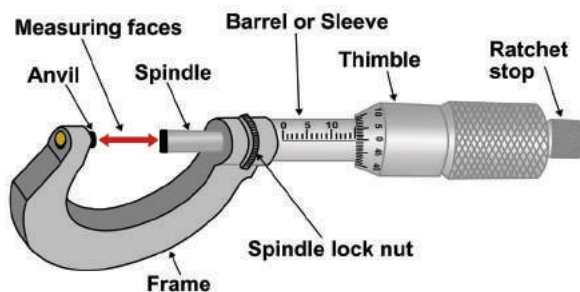

Figure 1.6 Screw gauge
The screw gauge consists of a U shaped metal frame. A hollow cylinder is attached to one end of the frame. Grooves are cut on the inner surface of the cylinder through which a screw passes (Figure 1.6). On the cylinder parallel to the axis of the screw there is a scale which is graduated in millimetre. It is called Pitch Scale (PS). One end of the screw is attached to a sleeve. The head of the sleeve (Thimble) is divided into 100 divisions and it is called the Head scale.